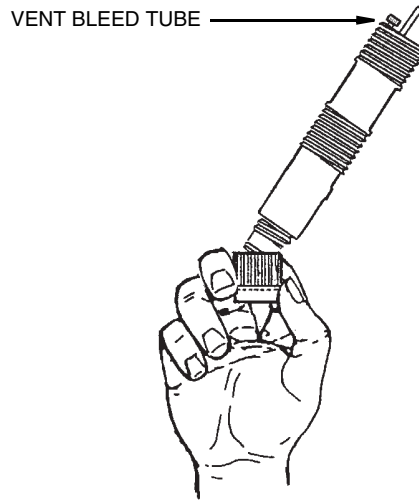

Figure 28. Replacement Membrane Installation and Venting
9. Holding the sensor at a slight angle with the vent bleed tube aligned upright, slowly insert the sensor body into the membrane cap so excess electrolyte and any remaining trapped air escapes through the vent hole. See Figure 28.